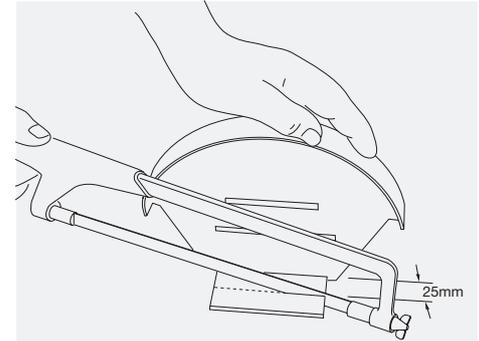

Fig. 17 – Trimming the ridge cap
- When using a ridge end cap with either the Marley dry ridge or RidgeFast systems, the bottom flange of the cap will need to be reduced to 25mm overall depth (Fig. 17).